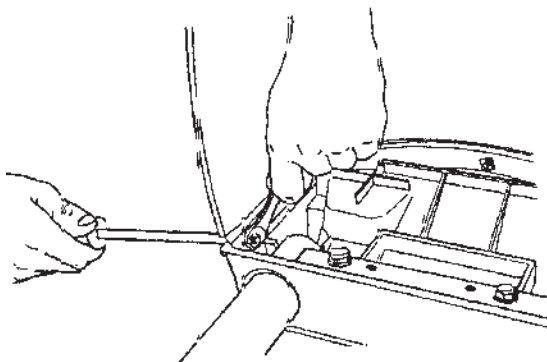

Figure B-26
10. Do the same for the remaining four holes in the leg. After all five screws are attached, use a large Phillips screwdriver and a 7/16" wrench to tighten only enough to allow movement with firm pressure. See Figure B-26.